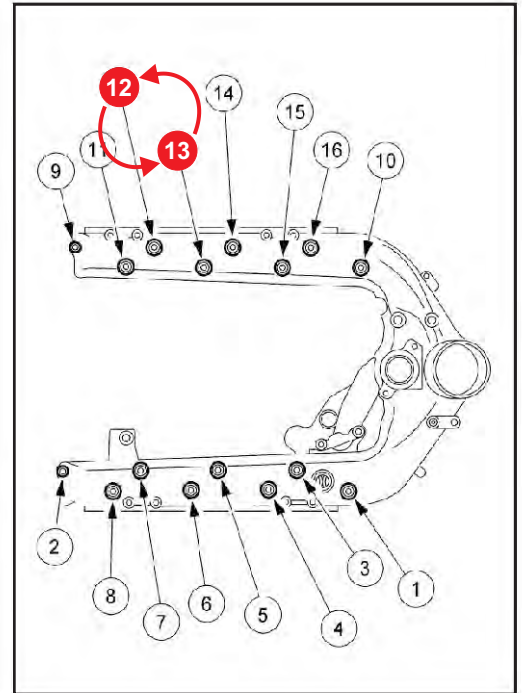

Figure 1 - New bolt position for intake manifold mounting bolts
During injector harness replacement the intake manifold stud #13 should be relocated to reduce the possibility of chafing or damage to the new harness. (See Figure 1)
2. Remove intake manifold stud from the #13 position. (See Figure 1 for bolt/stud positions)